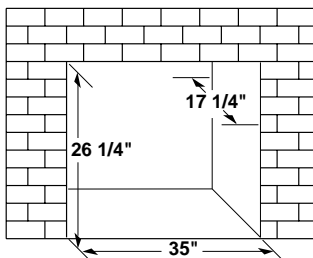

Figure 13 - Rough Opening for Installing in Masonry Fireplace
1. Use dimensions shown in Figure 13 for the masonry fireplace opening.